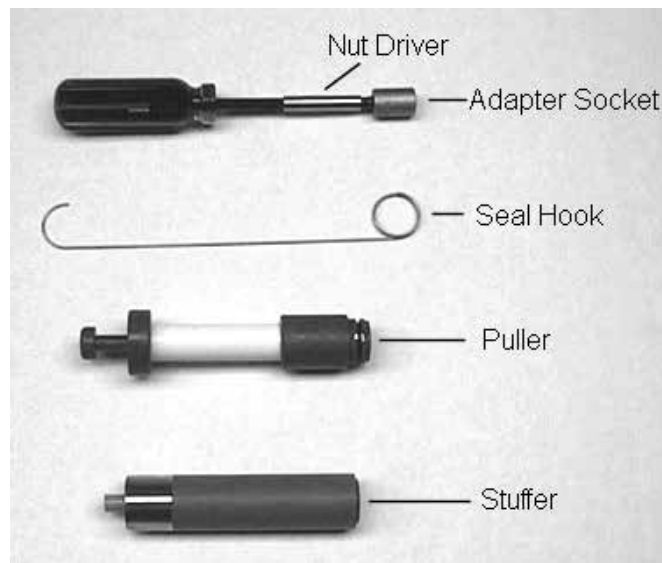

Figure 8
12. To restuff a valve body, first take the end ring (the plastic or brass ring without holes), then with your thumb press the button on the brass sleeve end. The large dia. inner portion is now exposed (see Figure 8). Place the end ring on this pilot with the lip on the end ring facing the tool. Push the tool into the valve body bore until it bottoms. While the tool is in the valve body, take a seal and press it into the inside diameter of the exposed brass female end.